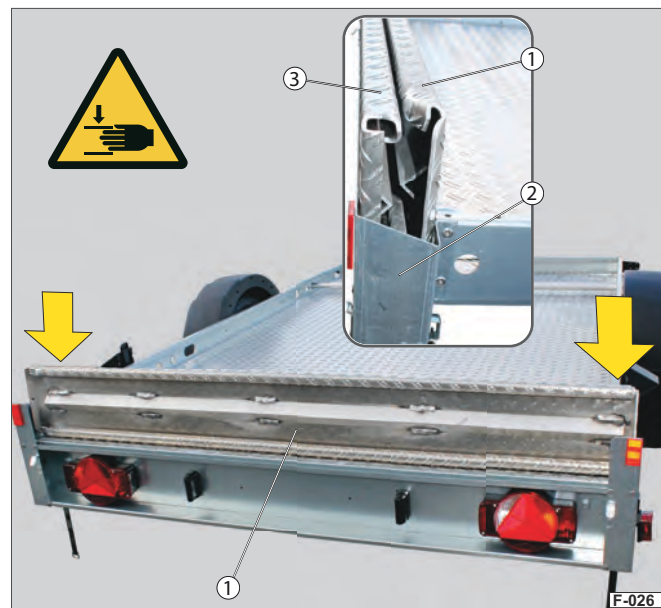

**Fig. 33** Loading ramps unhooked
- ▶ Lift the rear end of the loading ramp (Fig. 33 /1) up so that the loading ramp unhooks from the rail on the chassis (Fig. 33 /2).